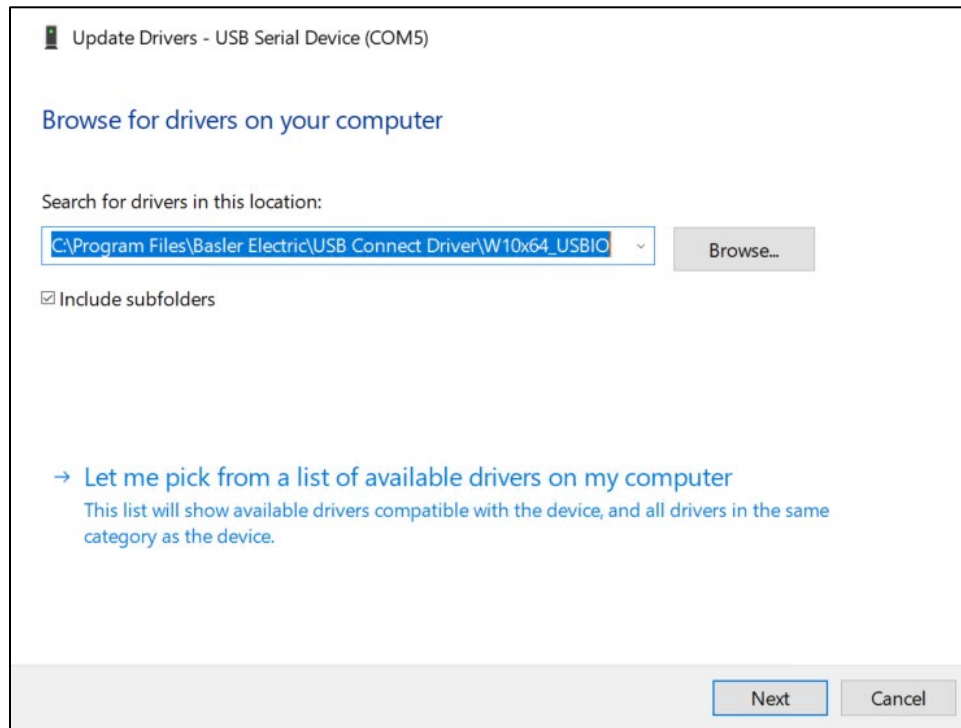

Figure 64-7. Update Drivers
- Step 6. Click Browse and navigate to C:\Program Files\Basler Electric\USB Device Drivers\W10x64_USBIO. If the value in Step 3 contained **MI_02**, select W10x62_USBCOM instead. Click Next. See Figure 64-7.